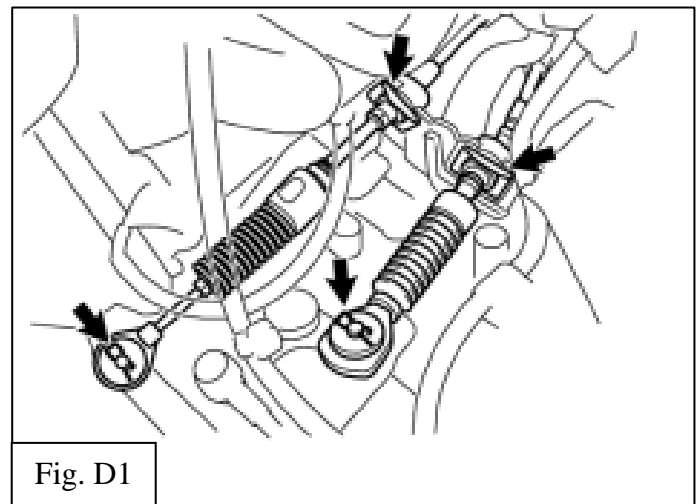

Fig. D1
1. Disconnect the transmission control cable ends from the gear shift linkage on the transmission. (Fig. D1)
- i. Remove transmission cable clips (4) and save for re-use. (Fig.D1)
- iii. Remove large area washers under clip and save for re-use. (Fig. D1)
- iv. Remove transmission cable ends from transmission linkage and set cable ends aside. (Fig. D1)